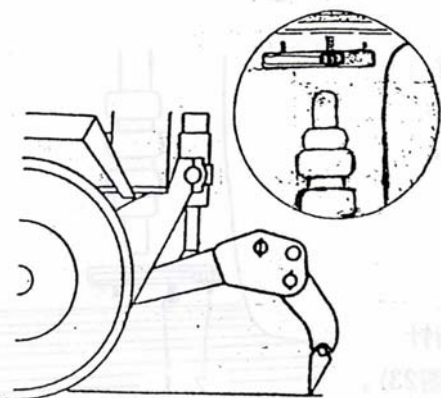

Fig. 25
2. Scarifying position (Fig.25), in the figure the grade is in horizontal condition. The teeth are out and resting on the ground. The pointer of the indicator is in the middle position;